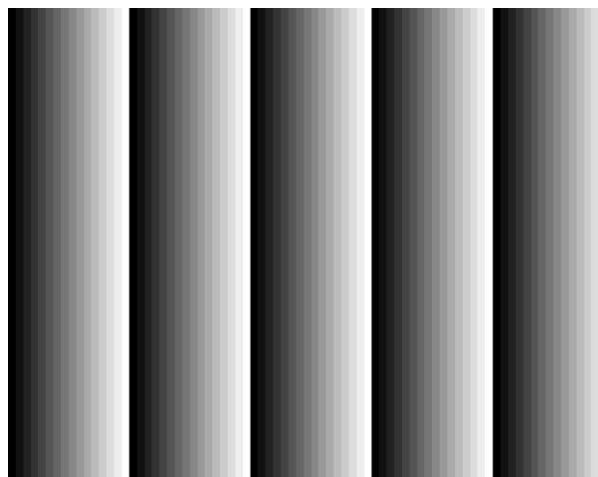

Figure 16 – Horizontal pattern
1. Horizontal ramp – a grayscale horizontal gradient as shown in Figure 16: